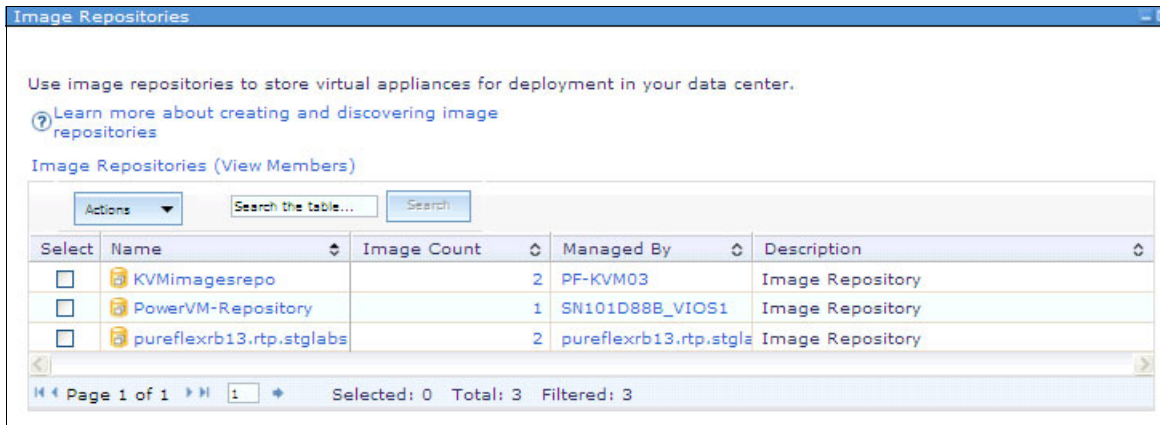

Figure 5-8 Images Repositories window
- g. The image repository server is discovered and inventory is collected as shown Figure 5-8. For more information, see 9.3, “Image repository for KVM” on page 328.